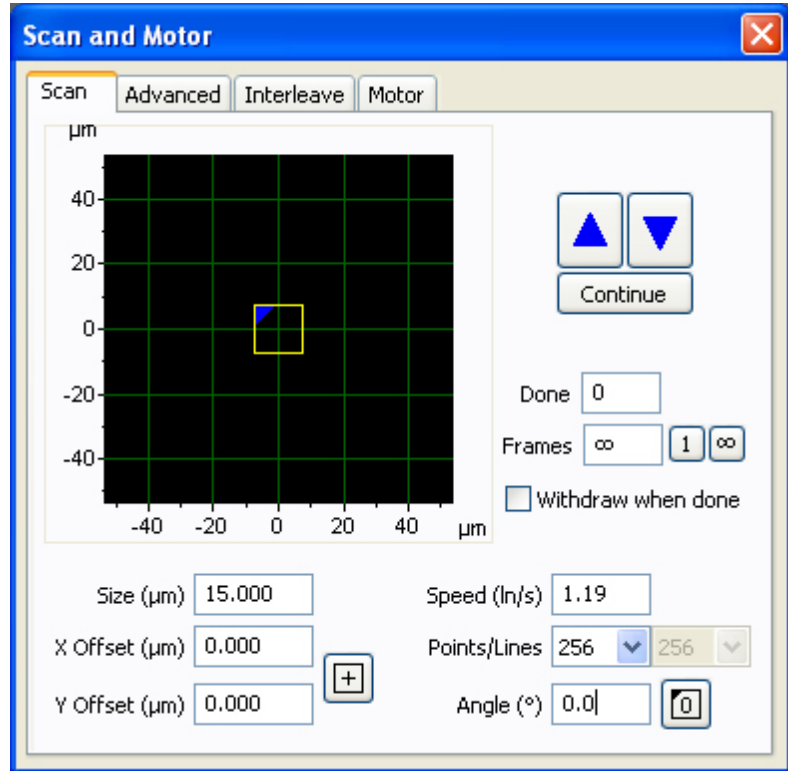

Figure 77 Scan and Motor window: Scan tab
- 15 In the Scan and Motor window, select the **Scan** tab (Figure 77).
- 17 Select a resolution from the **X** list. **256** is a good starting value, providing ~11 nm/pixel resolution for the 3 micron scan size selected in Figure 77.
Depending on the Frames setting in the Scan and Motor window, the system will either scan once and stop, or it will scan infinitely, overwriting the previous scan each time. You can also choose to scan for a specific number of frames. To stop the scan, click the red STOP circle that will replace the Up or Down arrow when you start a scan (Figure 77 on page 110).